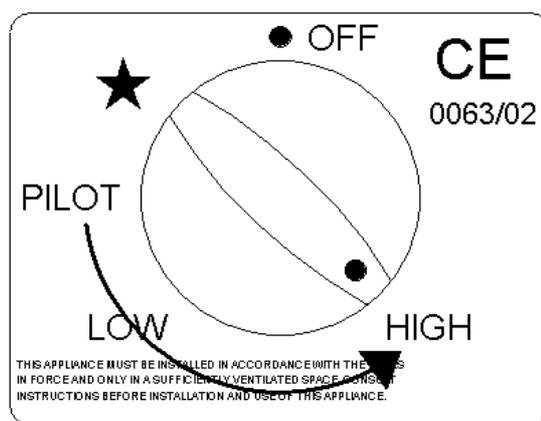

Fig 4c
Step 2. To ignite the main burner, rotate the control knob anti-clockwise to the **HIGH** position (fig 4c)